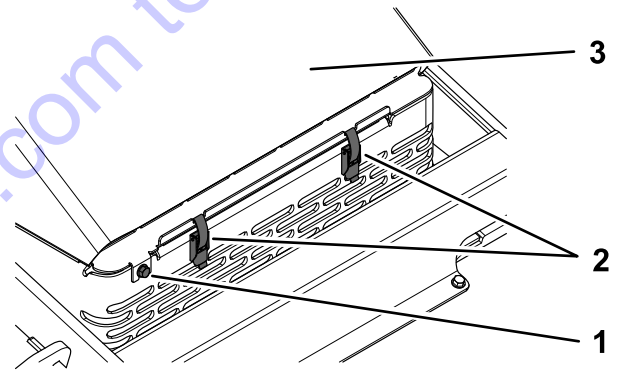

Figure 40
- Loosen the hood-locking screw (Figure 40).
- Hold the hood down and release the 2 latches (Figure 40).
- Lift open the hood (Figure 40).
2. Tighten the hood-locking screw (Figure 40).